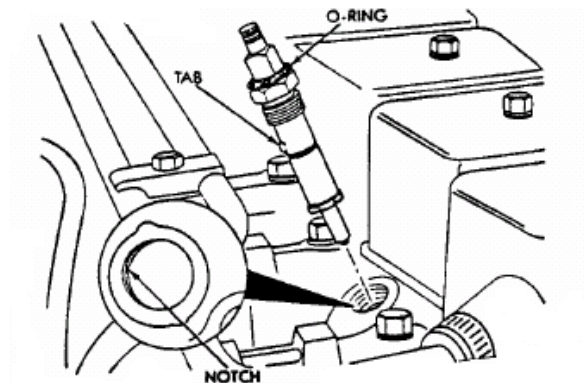

Fig 8: Installing Injector
- 4 Install the injector into the cylinder head. Align the tab on the injector to the notch in the cylinder bore (Fig 8). Certain types of injectors **may** have an o-ring located above the holddown nut (Fig 8). After